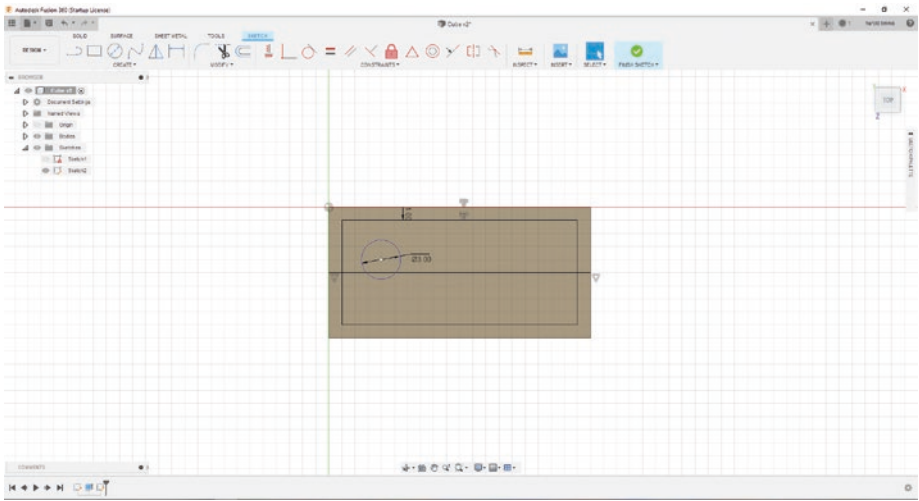

Figure 3-65. Find the horizontal center of the rectangle
17. Let's make some construction lines, so that we know where the center of this rectangle is. First, select the Line function from the “CREATE” menu or press the “L” key, and place a line from one side of the rectangle to the other side. You will see this symbol  when you have selected the center for an edge; once you see that, left-click and move to the other side and left-click again. See Figure 3-65.